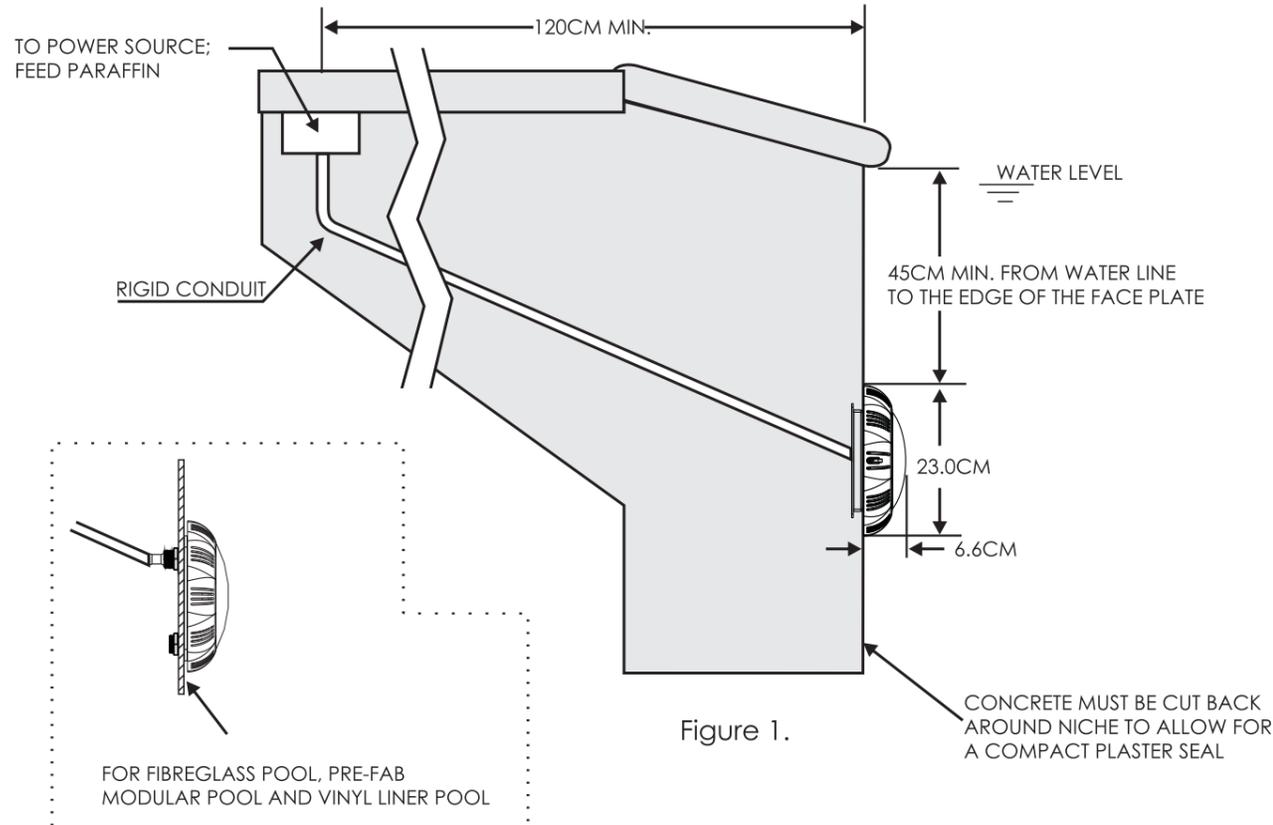

Figure 1.
**A) Preparatory steps which must be completed by the electrician before light is installed, see Figure 1.**
a) The junction box, or the low voltage transformer for 12 volt Underwater Light model is to be located at least 120CM from the edge of the pool, see Figure 1.
c) The mounting bracket must be properly installed so that the top edge of the Underwater Light lens is at least 45CM below the surface of the water in the pool, see Figure 1.
1) Locate position on a vertical wall where light is to be installed. The edge of the face plate must be 45CM below normal water level, see Figure 1.